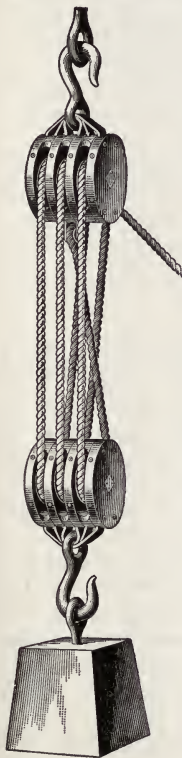

FIG. 31.
73. A **combination of pulleys**, as shown in Fig. 31, is sometimes used. In this case there are three movable and three fixed pulleys, and the amount of movement of W , owing to a certain movement of P , is readily found.
EXAMPLE.—In an ordinary block and tackle having six parts of the rope supporting the load, as shown in Fig. 31, how great a force must actually be applied to raise 2,000 pounds?
77. If the free end of the hauling rope passes first around a stationary sheave, as in Fig. 31, it does not make any difference in what direction in the plane of the sheave the rope is pulled. If it passes first around a movable sheave, however, as in Fig. 29, the pull must be exerted in a line parallel to the line of action of the resistance, or a line joining the